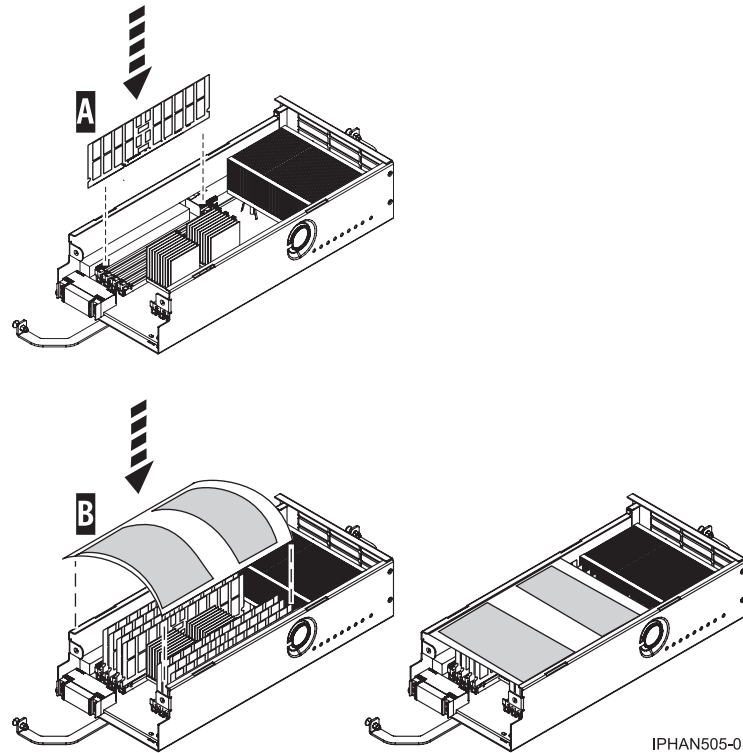

Figure 5. Plastic film cover placed over 4 GB or 8 GB memory modules
5. If you have tall 4 GB or 8 GB memory modules, use the plastic film cover to prevent the memory modules from contacting the lid. When you have finished inserting the memory modules (A), place the plastic film cover (B) over them as shown in Figure 5 on page 11. If you replace tall 4 GB or 8 GB memory modules with any other size memory modules, remove the plastic film cover. If you do not remove the plastic film cover, it might restrict airflow in the unit.